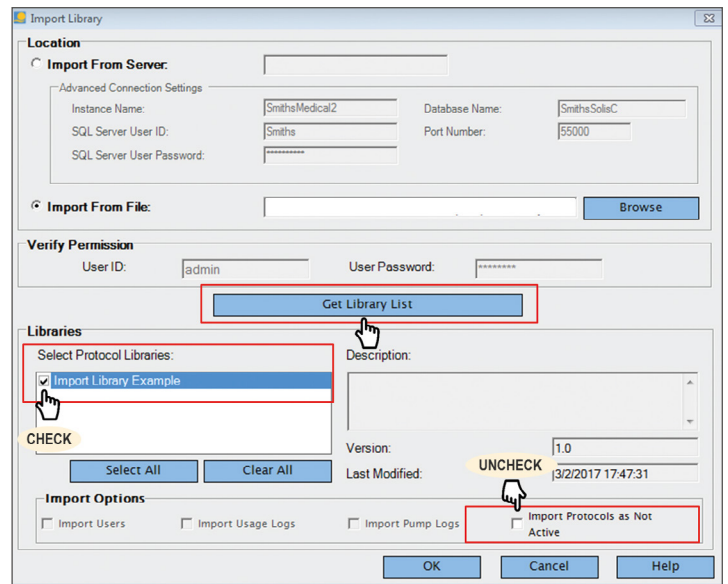

Fig. 2
1. From the menu bar, select **File > Import Library**. The Import Library dialog box is displayed (fig.2).